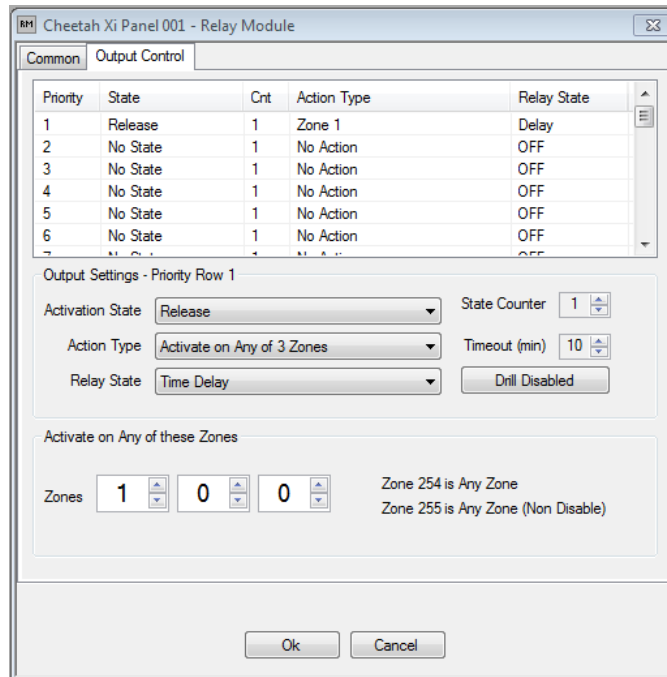

Figure 3 - Relay Module Configured for “Purge Soak” Period
5. Select the **Output Control** configuration tab (See Figure 3).